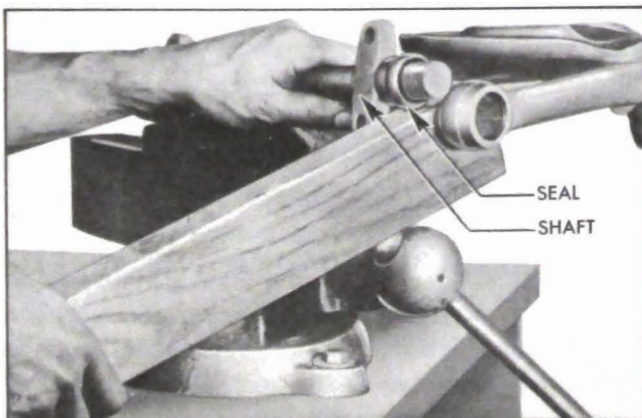

Figure 7-13—Springing Arm Over End of Shaft
5. Insert one end of shaft with the seal in place in one control arm end and force opposite end of shaft into the other control arm end. A piece of wood approximately $1\frac{1}{4}$ "x $2\frac{1}{2}$ "x 24 " long can be used as a pry. See figure 7-13.